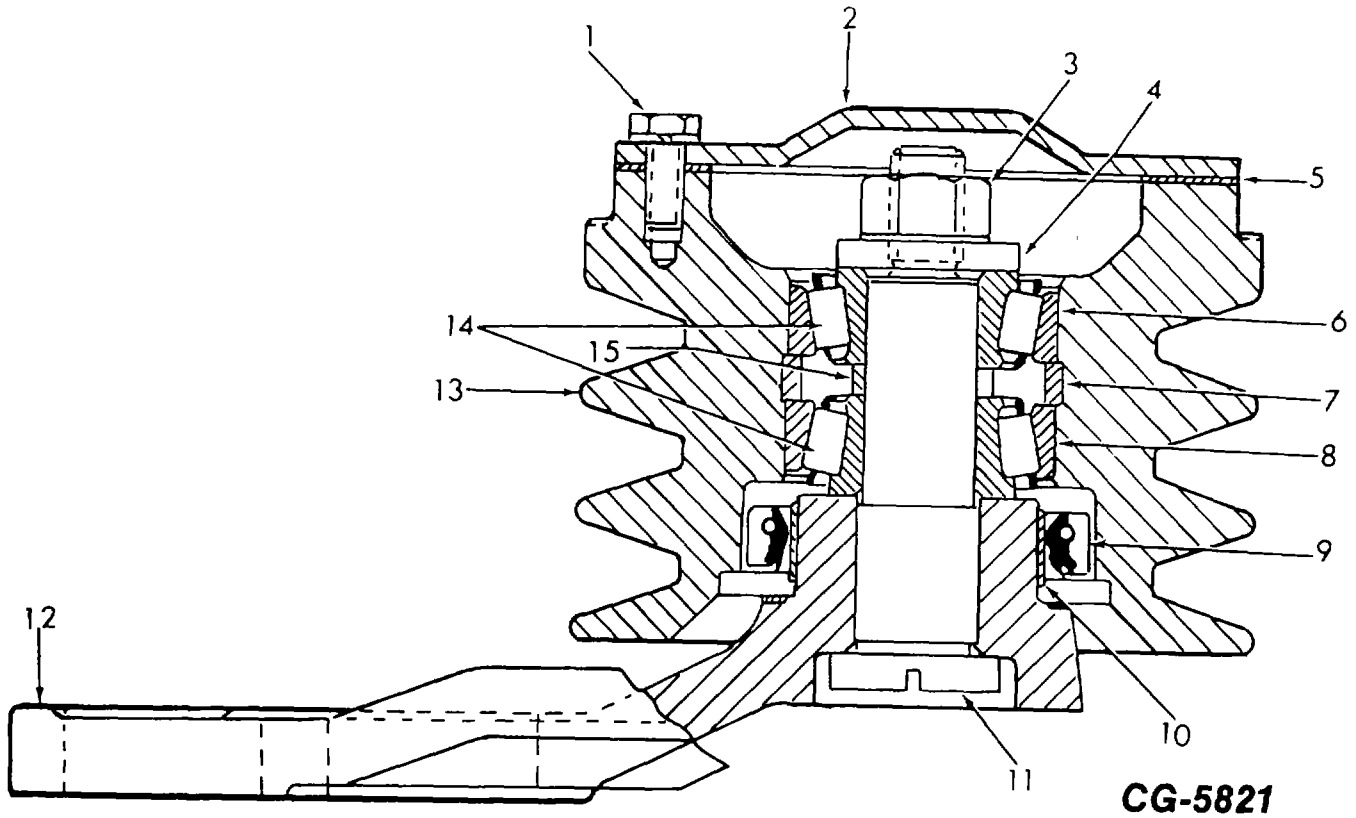

Figure 30. - Idler Pulley Assembly
1. Press shaft (11, Fig. 30) into bracket (12) until head bottoms in bracket counterbore.
2. Install spacer (7) in the groove of pulley hub.
3. Press front bearing cup (6) into pulley bore until it bottoms on spacer (7).
4. While supporting the pulley by the front bearing cup, press rear bearing cup (8) into pulley bore until it bottoms on spacer (7).
5. Install oil seal (9) (with lip facing out) flush with pulley bore.
6. Prepack area between seal (9) and bearing cup (8) with I.H. 251H-EP grease.
7. Wipe wear sleeve (10) with grease.
8. Prepack rear bearing cone (14) with I.H. 251H-EP grease and install onto shaft (11).
9. Install spacer (15) onto shaft.
10. Install pulley (13) onto the shaft. Be careful not to damage oil seal (9).
11. Prepack front bearing cone (14) and install onto shaft.